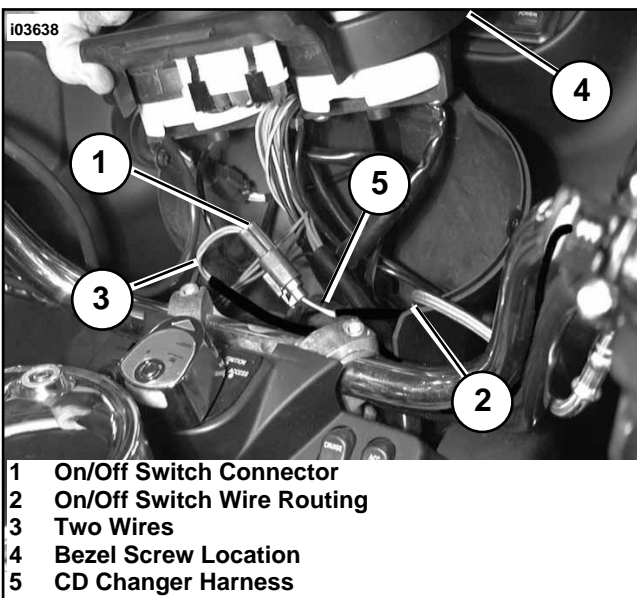

Figure 20. FLTR Wire Routing
- See Figure 20. Using a T25 TORX® drive head, remove the screws on left and right of side of instrument bezel.
- See Service Parts Illustration. Follow instructions under "Installing 2-Place Switch Deutsch Connector" on the following page and install the 2 ON/OFF switch wire pins to the male connector (9). Install Wedgelock (12)
- Repeat Steps a through f for the Track and Disc Advance Switch and three pin connector (8). Install Wedgelock (11)
- Connect the male and female halves of the ON/OFF and Track and Disc Advance connectors and tuck wiring up under instruments. Use wire ties (22) to secure wiring in place.